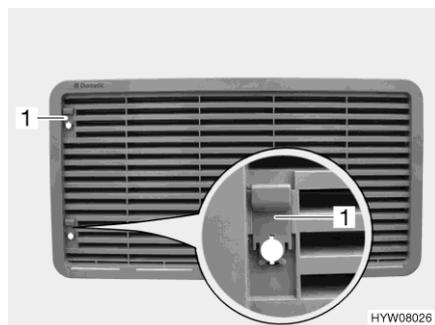
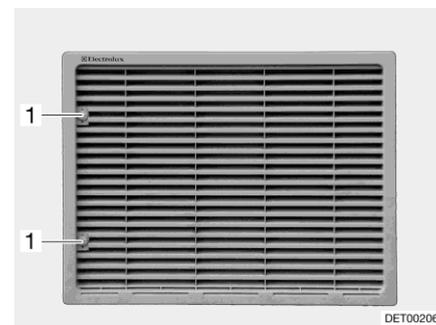

Fig. 261 Refrigerator ventilation grill (with sliding trap)
Fig. 262 Refrigerator ventilation grill (with screw)
- Depending on the design, push the sliding trap (Fig. 261,1) upwards or turn the screw (Fig. 262,1) a quarter turn using a coin.